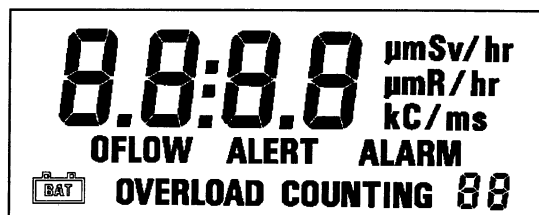
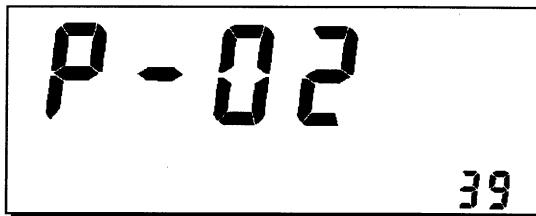

Figure 3. First screen after power up shows all symbols.
Figure 4. Second screen shows program number and version. This example shows program number 2, version 39.
■ The display goes through an initialization sequence. The display will show all "8"s with decimal points. Check to make sure all segments are on as illustrated in Figure 3. The LCD then shows the firmware number in the format "P-XX YY." The "XX" is the firmware number and the "YY" is the firmware version. (Figure 4).
■ All of the segments will appear (Figure 3) until the "RESET" button is released. To "freeze" the firmware number and version (Figure 4), depress the "RESET" switch immediately after the first display is presented.